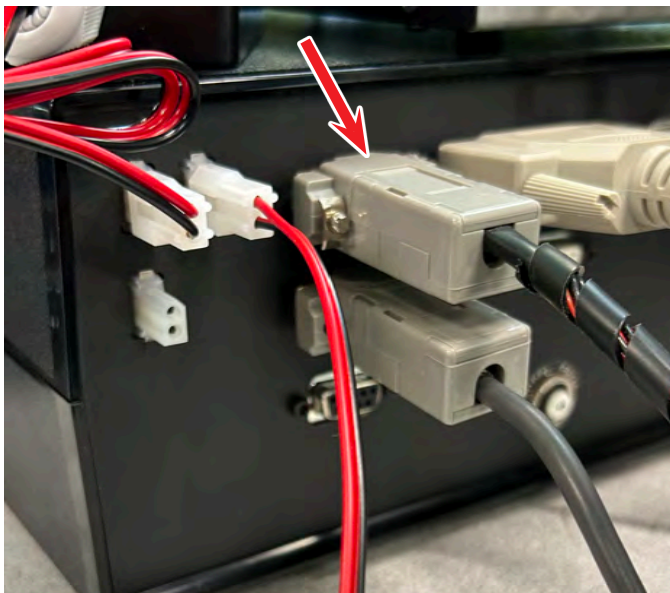

FIGURE 26—The red arrow shows the DB9 Limit Switch cable connected to the top DB9 port on the Acorn Controller.
1. Connect the DB9 connector on the end of the P/N 87825 Main Limit Switch Cable to the top DB9 connector on the backside of the controller (see Figure 26)